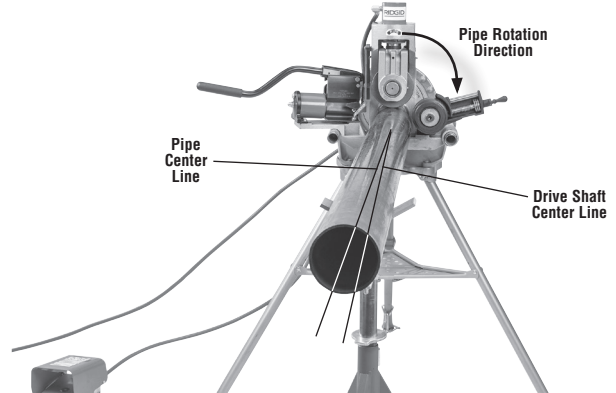

Figure 2 – Offsetting the Pipe 1/2° Toward Operator (Exaggerated for Clarity)
2. Slightly offset the pipe and pipe stands approximately 1/2 degree (about 1" over at 10 feet from the roll groover) towards the operator. Proper alignment of the pipe and roll groover helps to ensure proper tracking of the pipe while grooving (see Figure 2). This is proper offset for grooving with the machine in the REV switch setting, and works with the stabilizer.